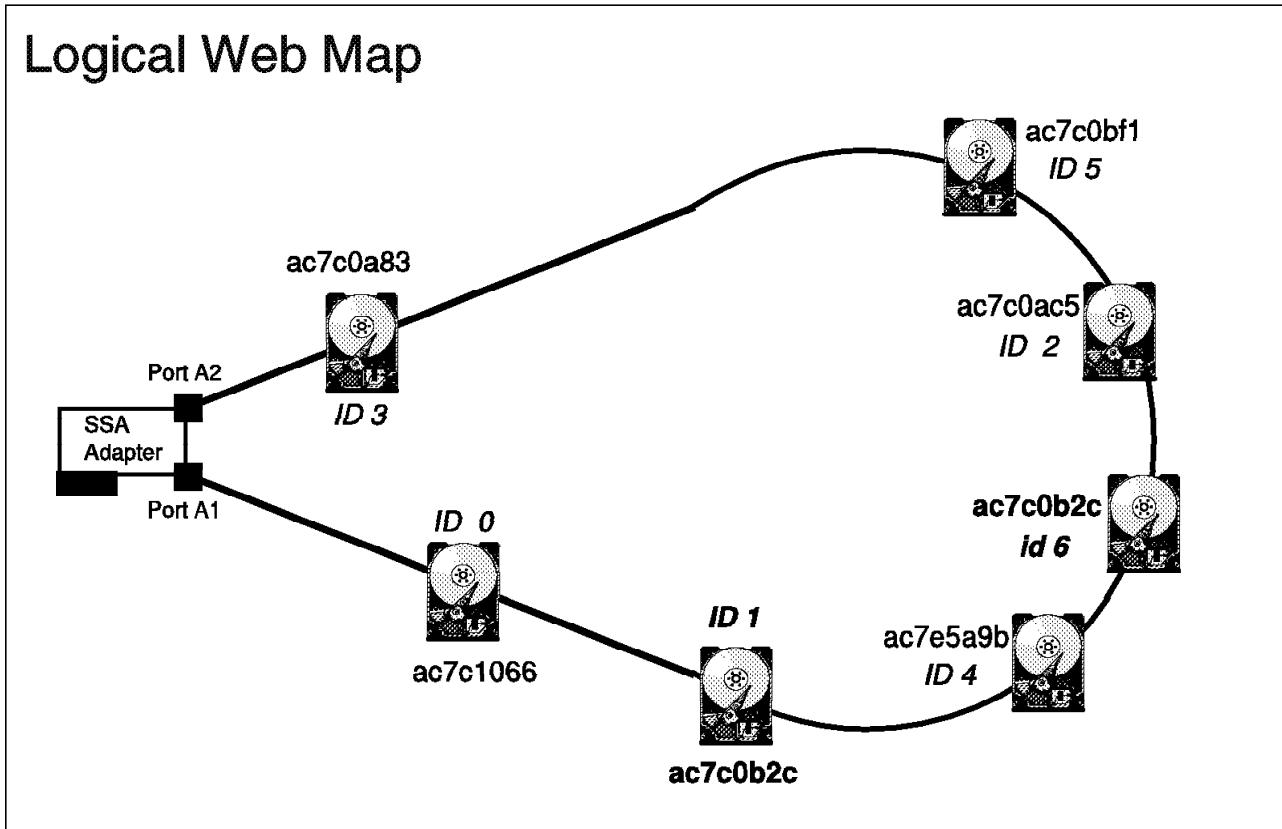

Figure 122. The Result of Replacing a Drive in an SSA Adapter Loop
9. Display the configuration map and compare with Figure 122 to confirm the result: